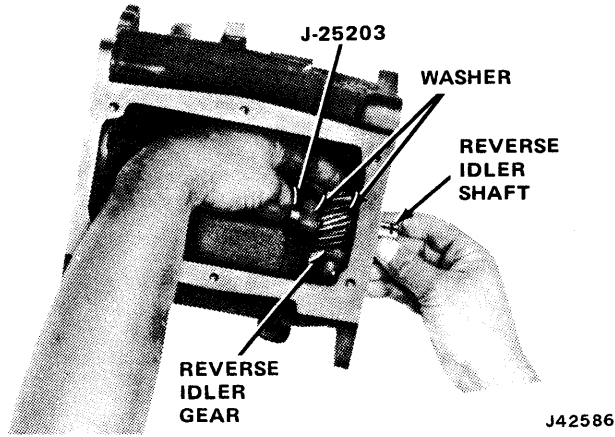

Fig. 6-22 Reverse Idler Gear Removal—Installation
(13) Remove countershaft gear assembly, arbor tool, and thrust washer.
(14) Remove arbor tool, spacer washers, bearing rollers and center spacer from countershaft gear.
(15) Remove reverse idler gear shaft using Tool J-25203 (fig. 6-22).
(16) Remove reverse idler gear, thrust washers, and roller bearings as assembly.